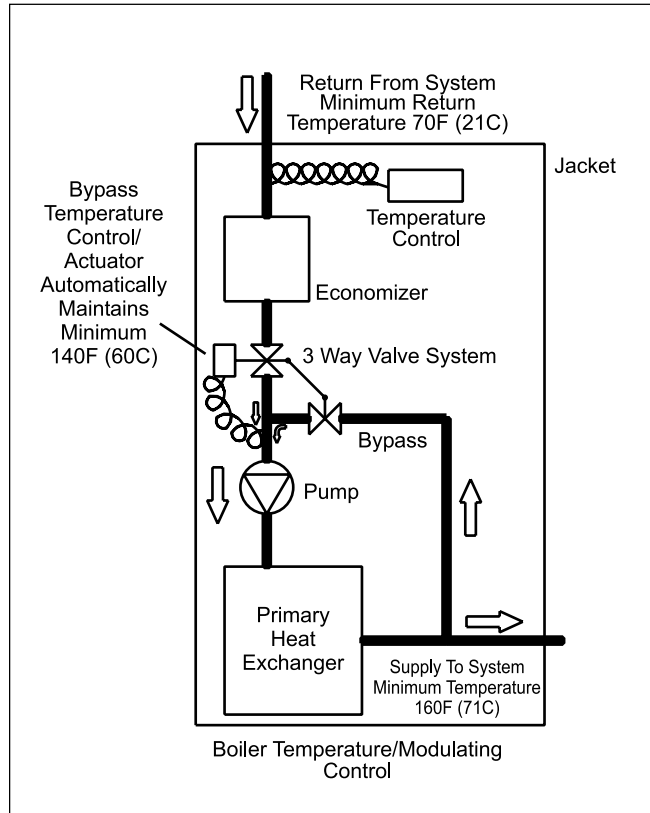

Figure 7. Internal Piping Schematic.
**adjustable.** The return water goes through the stainless steel heat exchanger, then to the mixing system (see Figure 7).
The Rheos+ water heater has an internal mixing system that ensures that the condensation does not occur on the finned copper heat exchanger, with heater return temperature down to 70°F (21°C). **This system, that consists of automatically actuated and linked valves, is set up at the factory, and is non-adjustable.** The return water goes through the stainless steel heat exchanger, then to the mixing system. (see Figure 7).
The Rheos+ has an internal mixing system that ensures that the condensation does not occur on the finned copper heat exchanger, with boiler return temperature down to 70°F (21°C). **This system, that consists of automatically actuated and linked valves, is set up at the factory, and is non-adjustable.** The return water goes through the stainless steel heat exchanger, then to the mixing system (see Figure 7).